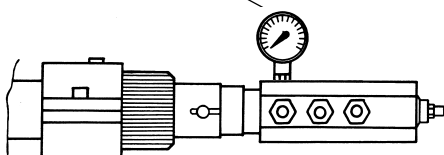

Fig. 24
- 9 the nozzle supply pressure is already factory-set and must not be changed. Only if necessary, adjust the supply pressure as follows (see related paragraph); insert a pressure gauge into the port shown on Fig. 24 and act on on the pump adjusting screw **VR** (see Fig. 23) as to get the nozzle pressure at 25bar (according to the nozzle model provided- see page 36).